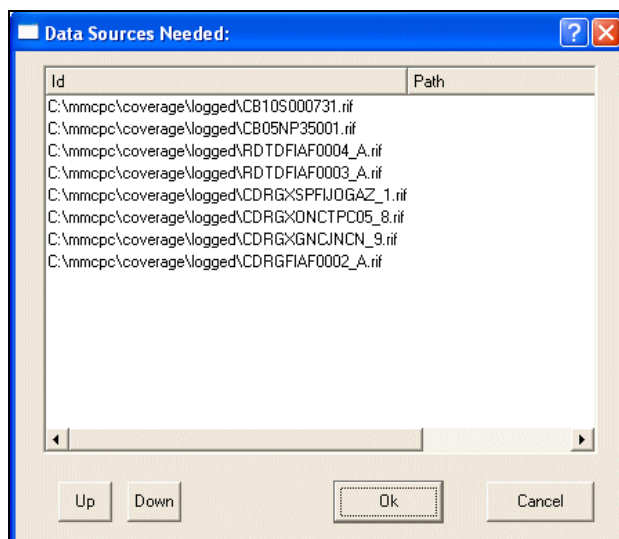

Fig. 61 — Build map data sources window
3. The Build Map window then closes and the Data Sources window is displayed (Fig. 61). This window shows all possible map sources for the selected composition. Click OK to accept the default order of sources.